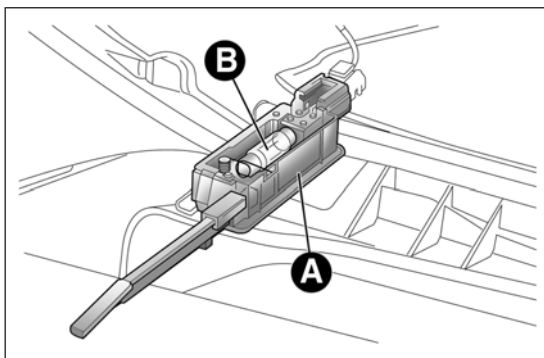

fig. 144
- ☐ open the glove compartment and extract the light A fig. 144;